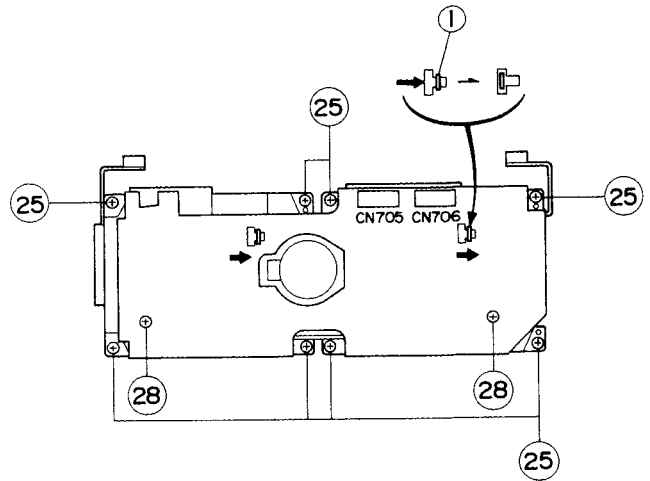

Fig. 7-10
(Fig. 7-10)
■ Preamp. board (Fig. 7-10)
1. Remove two screws (28) retaining the preamp. board.